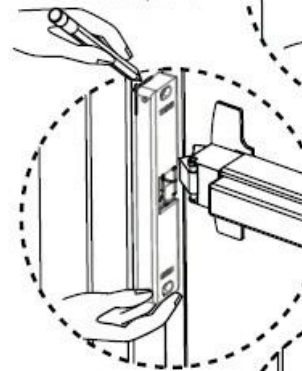

Figure 3
3. When you are confident with the position of the 4800, mark two perpendicular edges of the 4800 on the frame. See Figure 3